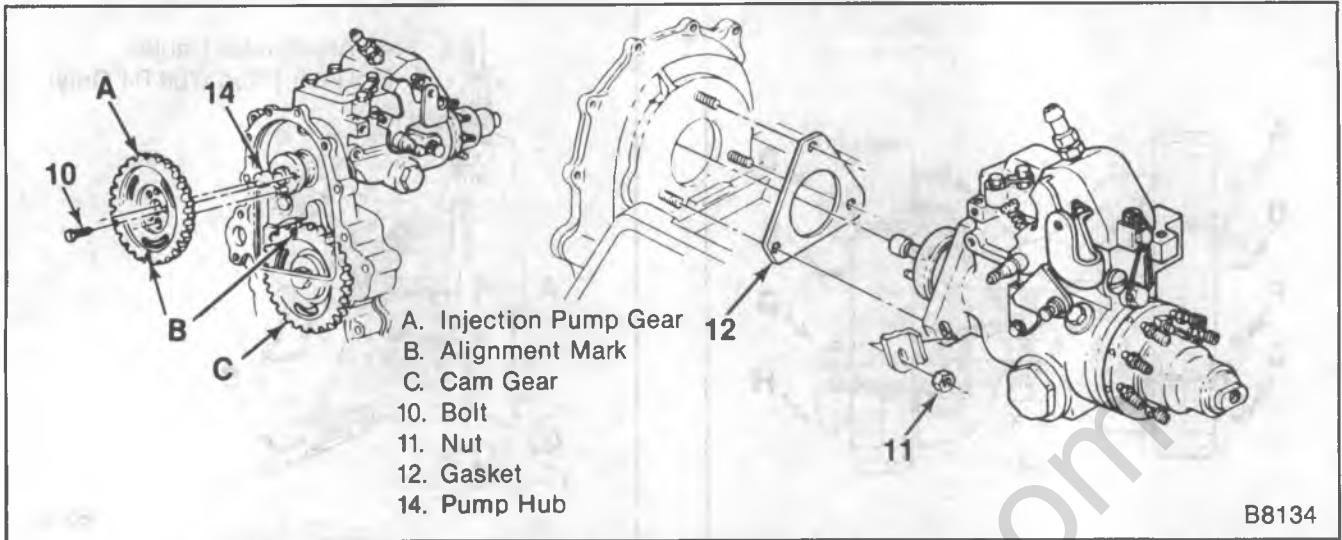

Figure 11—Injection Pump installation
12. Bolts (10).
13. Nuts (11)(figure 11).
15. Gasket (12).
4. Drive gear to injection pump bolts (10) (figure 11).